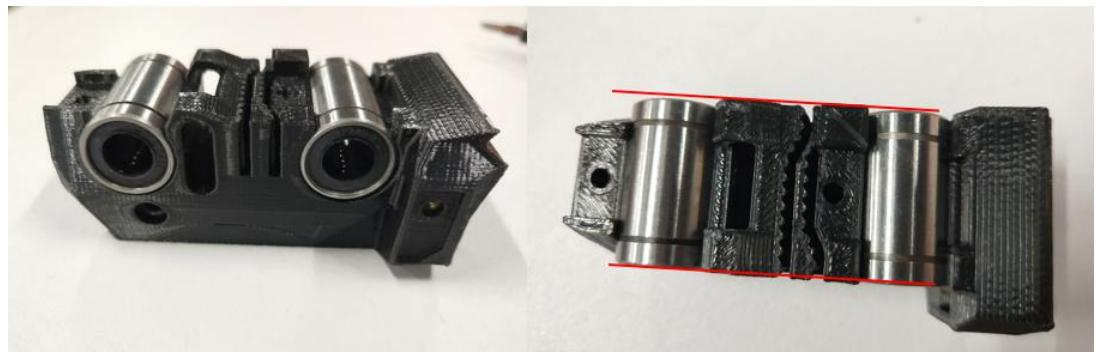

Figure 2.10.4
**B: Install the two linear bearings into the two U-shaped notches on the MINI-x-carriage. It is required that the end face of the linear bearing and the end face of the print are flush, as shown in Figure 2.10.4.**